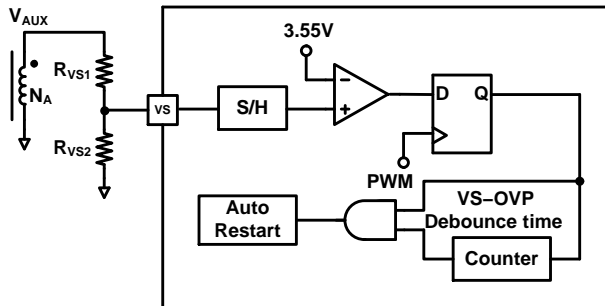

Figure 35. VS-OVP Protection Circuit
VS over-voltage protection prevents damage caused by output over-voltage condition. It is operated in Auto-Restart mode. Figure 35 shows the internal circuit of VS-OVP protection. When abnormal system conditions occur, which cause VS sampling voltage to exceed  $V_{VS-OVP}$  ( $3.55\text{V}$ ) for more than 2 consecutive switching cycles ( $N_{VS-OVP}$ ), PWM pulses are disabled and FAN604P enters Auto-Restart protection. VS over-voltage conditions are usually caused by open circuit of the secondary side feedback network or a fault condition in the VS pin voltage divider resistors. For VS pin voltage divider design,  $R_{VS1}$  is obtained from Equation (10), and  $R_{VS2}$  is determined by the desired VS-OVP protection function as